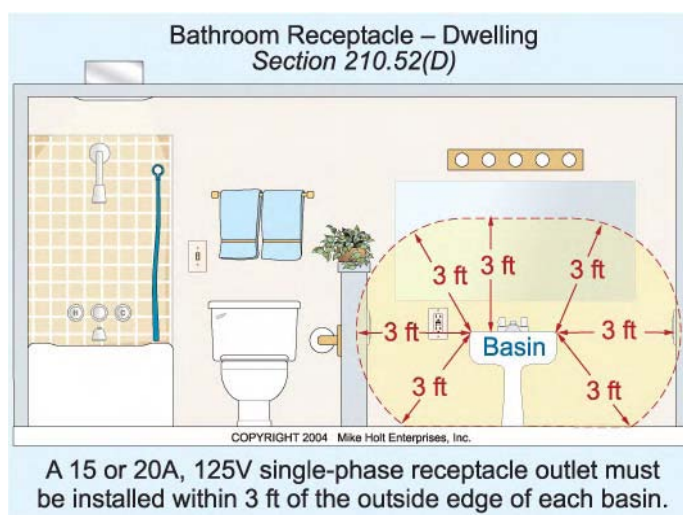

Figure 210-58
(D) Bathrooms—Dwelling Unit. In dwelling units, not less than one 15 or 20A, 125V receptacle outlet must be installed within an arc measurement of 3 ft from the outside edge of each bathroom basin. The receptacle outlet must be located on a wall or partition that is adjacent to the basin counter surface. See 210.11(C)(3). **Figure 210-58**